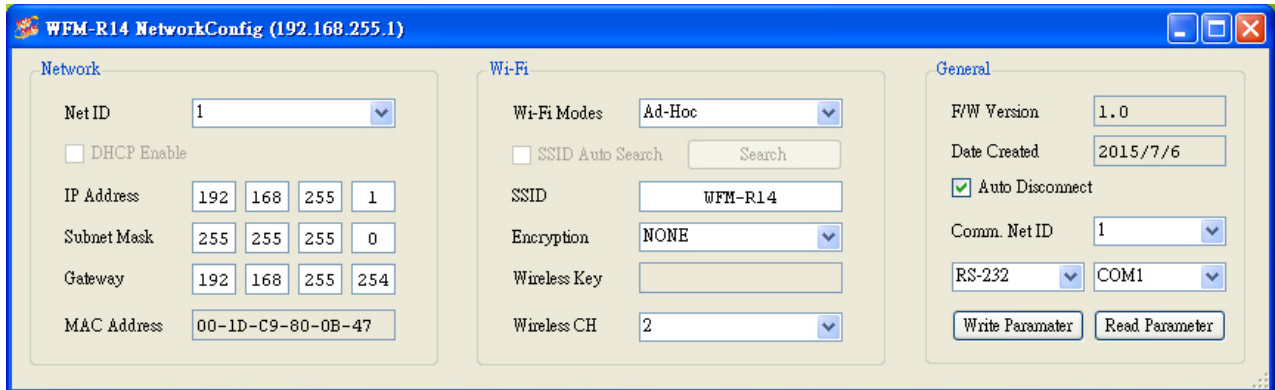

Figure 4-2: Configuration Interface
- 01 、 Net ID : The Unit Identifier in Modbus TCP/IP application data unit. This case is set as "1" in Figure 4-2.